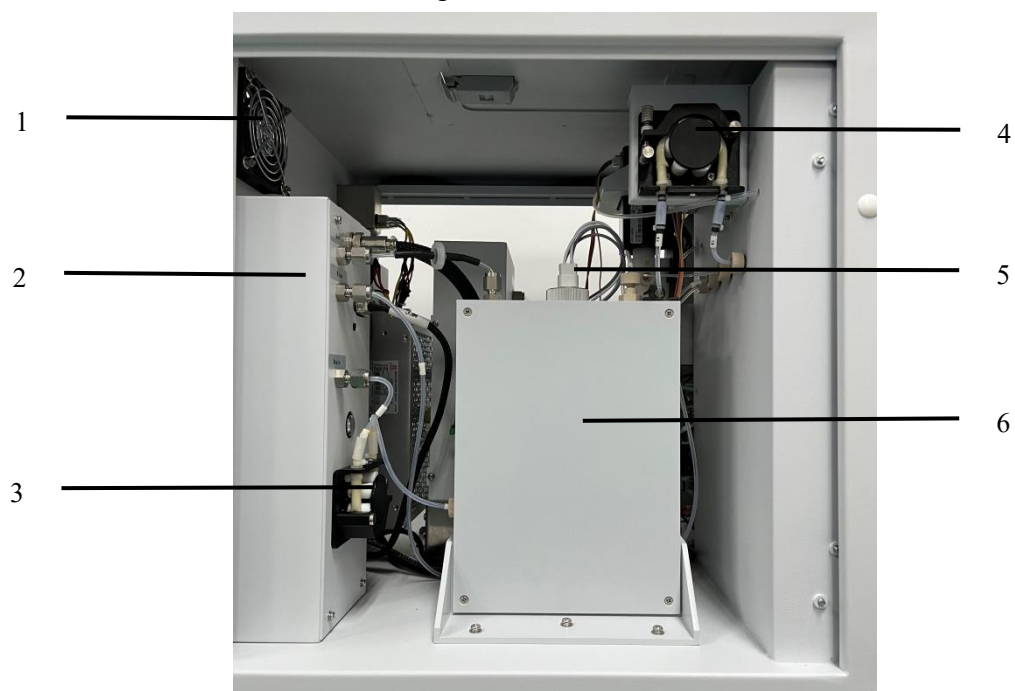

Fig. 3.2
3.2.2.2 The left view is shown in Fig. 3.2.